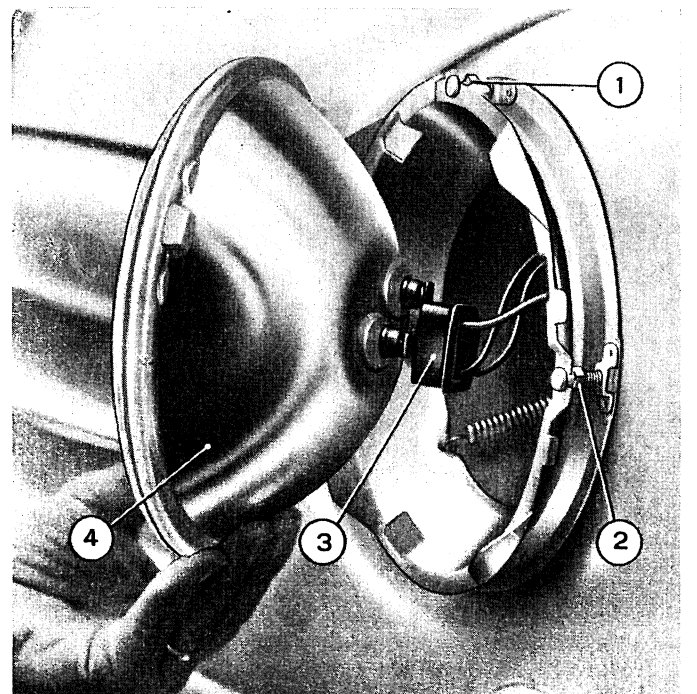

Fig. 468 - Opening headlamp (Version 140).
Using proper wrench, work on two screws (1 and 2, fig. 468). The upper screw (1) is to adjust beam vertically, the lower screw (2) adjusts beam horizontally.